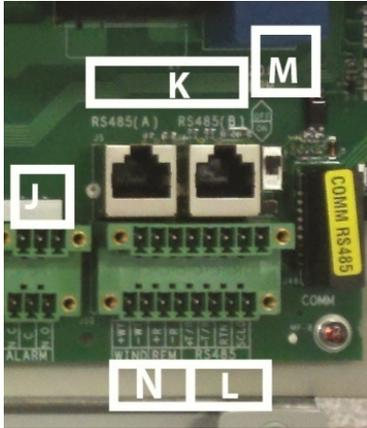

Figure 1.08 - Signal Configuration Connections
- Refer to Figure 1.08. Locate the terminals for the alarm and monitoring connections within the chassis.